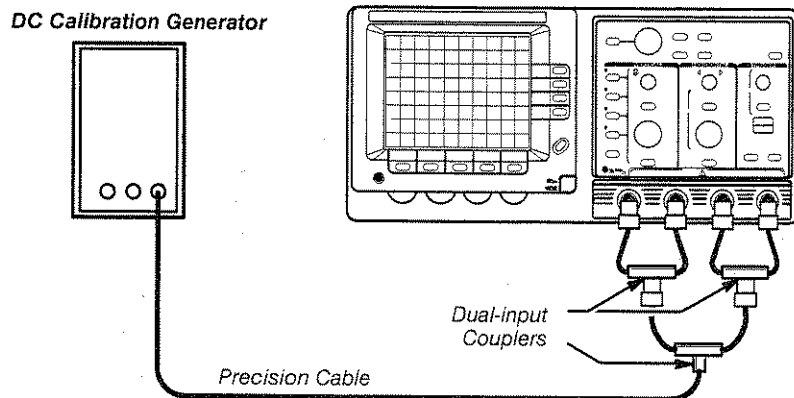

Figure 7-8: Factory Vertical Calibration Setup
4. Set the DC calibration generator for 10 VDC output and connect to the **CH 1**, **CH 2**, **CH 3**, and **CH 4** inputs as shown in Figure 7-8.